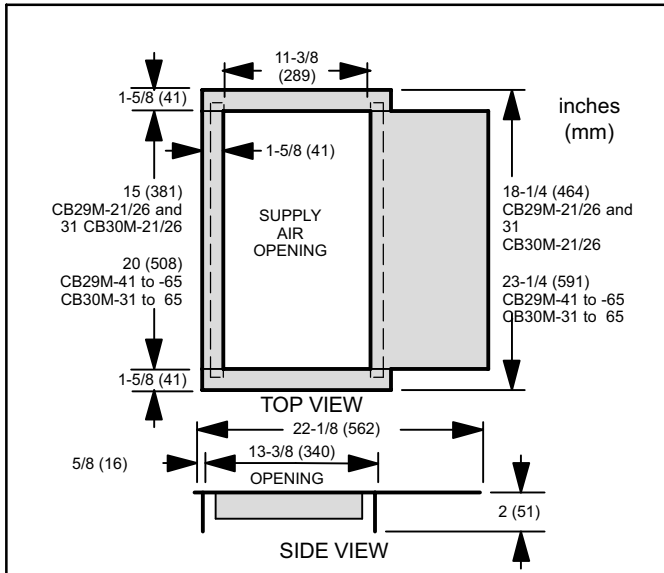

Figure 7. Down-flow Combustible Base Dimensions
Step 1. Cut an appropriately-sized opening for the base using dimensions listed in figure 7.